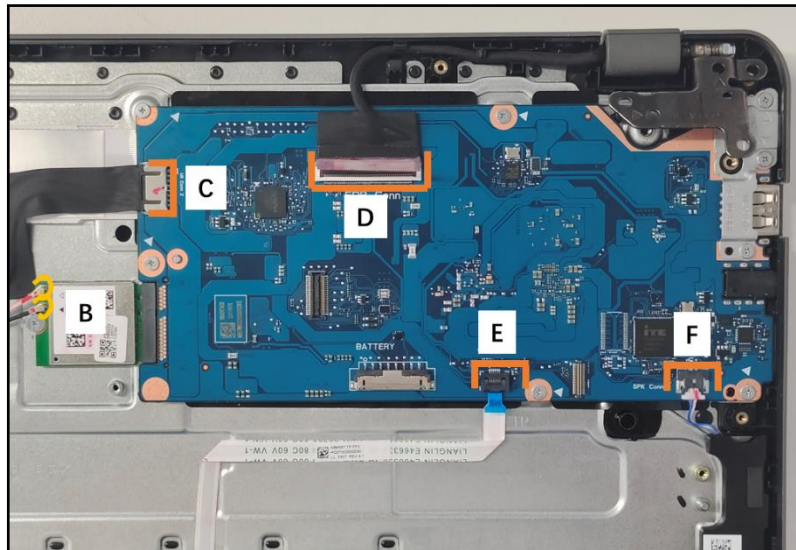

Figure 3-37. Mainboard Removal
4. Disconnect the WLAN antenna cables from the WLAN module connectors (B) (Figure 3-37).
5. Disconnect the UB cable from the mainboard connector (D) (Figure 3-37).
6. Disconnect the EDP cable from the mainboard connector (D) (Figure 3-37).
7. Disconnect the touchpad FFC from the mainboard connector (E) (Figure 3-37).
8. Disconnect the speaker cable from the mainboard connector (F) (Figure 3-37).